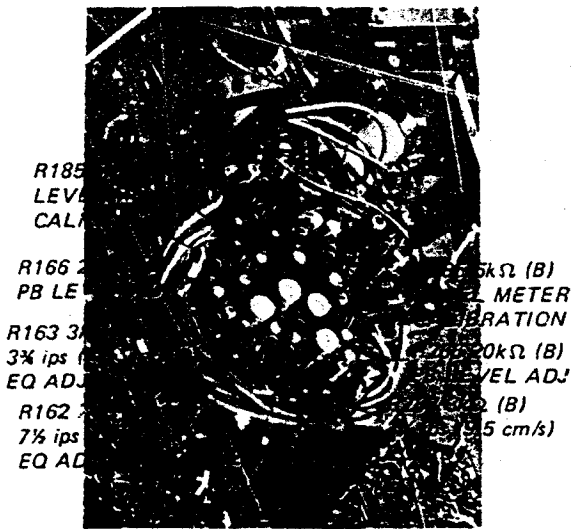

Fig. 4-3-2 Adjustment location
| SONY adjustment tape | VTVM and 100kΩ resistor in parallel with LINE OUT jack | PLAYBACK | L-CH: R166 R185 R-CH: R266 (20kΩ; B) R285 (5kΩ; B) See Fig. 4-3-2. | 1. Adjust R166 (L-CH) and R266 2. Adjust R185 (L-CH) and R285 | | | | | | | | | | | | |
| SONY adjustment tape, J-19-F2 | VTVM and 100kΩ resistor in parallel with LINE OUT jack | PLAYBACK | L-CH: R162 2kΩ (B) See Fig. 4-3-2. | <table border="1" style="width: 100%; border-collapse: collapse;"> <tr> <td>Tape tone</td> <td>4th</td> <td>5th</td> </tr> <tr> <td>Frequency</td> <td>12.5 kHz</td> <td>10 kHz</td> </tr> <tr> <td>L-CH</td> <td>0±2 dB</td> <td>0±2 dB</td> </tr> <tr> <td>R-CH</td> <td></td> <td></td> </tr> </table> Deviation against the level at 400 Hz After the adjustment, repeat the | Tape tone | 4th | 5th | Frequency | 12.5 kHz | 10 kHz | L-CH | 0±2 dB | 0±2 dB | R-CH | | |
| SONY adjustment tape, J-9-F1 | L-CH: R163 3kΩ (B) See Fig. 4-3-2. | <table border="1" style="width: 100%; border-collapse: collapse;"> <tr> <td>Tape tone</td> <td>4th</td> <td>5th</td> </tr> <tr> <td>Frequency</td> <td>5 kHz</td> <td>2.5 kHz</td> </tr> <tr> <td>L-CH</td> <td>0±2 dB</td> <td>0±2 dB</td> </tr> <tr> <td>R-CH</td> <td></td> <td></td> </tr> </table> Deviation against the level of 400 Hz | Tape tone | 4th | 5th | Frequency | 5 kHz | 2.5 kHz | L-CH | 0±2 dB | 0±2 dB | R-CH | | | | |
| R-CH: R266 (20kΩ; B) R285 (5kΩ; B) e Fig. 4-3-2. | 1. Adjust R166 (L-CH) and R266 (R-CH) to obtain 0 dB (0.775V) on VTVM. 2. Adjust R185 (L-CH) and R285 (R-CH) so that pointers of level meters stay at 0 VU (100%). | | | | | | | | | | | | | | | | | | | | | | | | |
| R162 R-CH: R262 2kΩ (B) e Fig. 4-3-2. | Deviation against the level at 400 Hz of 3rd tone <table border="1" data-bbox="341 592 1110 703"> <thead> <tr> <th>Tape tone</th> <th>4th</th> <th>5th</th> <th>6th</th> <th>7th</th> <th>8th</th> </tr> </thead> <tbody> <tr> <td>Frequency</td> <td>12.5 kHz</td> <td>10 kHz</td> <td>7 kHz</td> <td>80 Hz</td> <td>40 Hz</td> </tr> <tr> <td>L-CH</td> <td>0±2 dB</td> <td>0±2 dB</td> <td>0±2 dB</td> <td>+3.0±2 dB</td> <td>+2.0±2 dB</td> </tr> <tr> <td>R-CH</td> <td></td> <td></td> <td></td> <td>+3.5±2 dB</td> <td>+3.0±2 dB</td> </tr> </tbody> </table> After the adjustment, repeat the playback level adjustment. | Tape tone | 4th | 5th | 6th | 7th | 8th | Frequency | 12.5 kHz | 10 kHz | 7 kHz | 80 Hz | 40 Hz | L-CH | 0±2 dB | 0±2 dB | 0±2 dB | +3.0±2 dB | +2.0±2 dB | R-CH | | | | +3.5±2 dB | +3.0±2 dB |
| R163 R-CH: R263 3kΩ (B) e Fig. 4-3-2. | Deviation against the level of 400 Hz of 3rd tone <table border="1" data-bbox="341 791 984 902"> <thead> <tr> <th>Tape tone</th> <th>4th</th> <th>5th</th> <th>6th</th> <th>7th</th> </tr> </thead> <tbody> <tr> <td>Frequency</td> <td>5 kHz</td> <td>2.5 kHz</td> <td>200 Hz</td> <td>80 Hz</td> </tr> <tr> <td>L-CH</td> <td>0±2 dB</td> <td>0±2 dB</td> <td>+2±2 dB</td> <td>+0.5±2 dB</td> </tr> <tr> <td>R-CH</td> <td></td> <td></td> <td>+2.5±2 dB</td> <td>+1.0±2 dB</td> </tr> </tbody> </table> | Tape tone | 4th | 5th | 6th | 7th | Frequency | 5 kHz | 2.5 kHz | 200 Hz | 80 Hz | L-CH | 0±2 dB | 0±2 dB | +2±2 dB | +0.5±2 dB | R-CH | | | +2.5±2 dB | +1.0±2 dB | | | | |